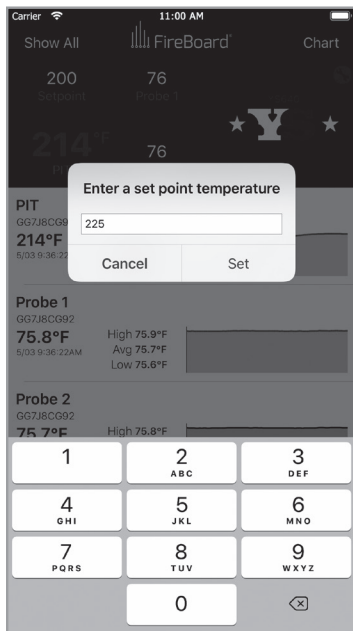

FIG 28
- You can change the pit's setpoint by tapping on the setpoint in the gray banner (**FIG 28**). Simply enter your new desired setpoint and tap the “Set” button. Please note that changes to the setpoint take a few seconds to take effect. Please be patient for them to be reflected in the cooker and in the app's dashboard.